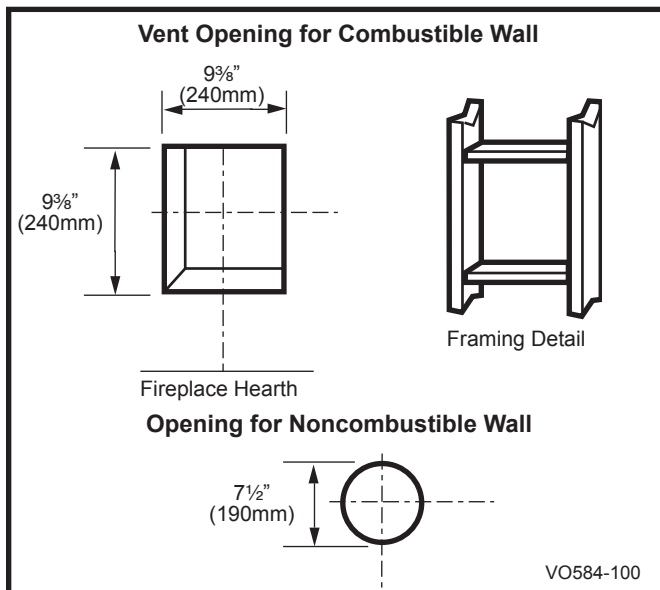

Fig. 25 Locate vent opening on wall.
Locate vent opening on the wall. It may be necessary to first position the fireplace and measure to obtain hole location. Depending on whether the wall is combustible or noncombustible, cut opening to size. (Fig. 25)
Combustible Walls (Fig. 25): Cut a 9 $\frac{3}{8}$ " H x 9 $\frac{3}{8}$ " W (240 x 240 mm) hole through the exterior wall and frame.
Noncombustible Walls (Fig. 25): Hole opening must be 7.5" (190 mm) in diameter.
1. Establish vent hole through the wall. (Fig. 25)